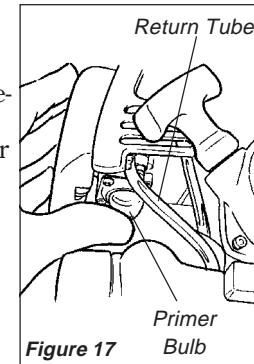

Figure 17
2. Prime the engine by depressing the carburetor primer bulb four or five times. See Figure 17. You should be able to see fuel inside the bulb.